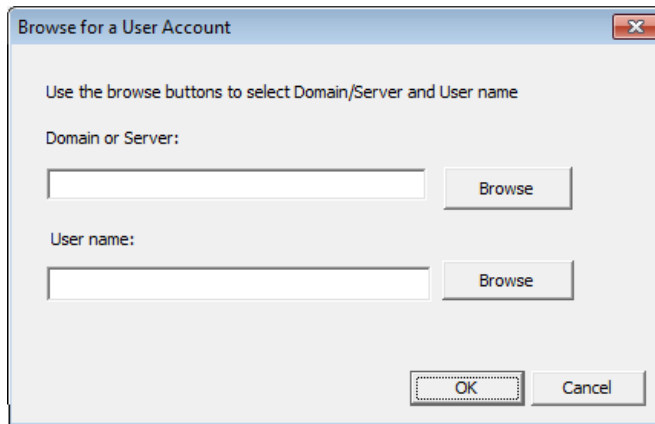

Figure 53. Browse for a User Account Dialog Box
- g. Click **Browse** to launch the Browse for a User Account dialog box shown in Figure 53.